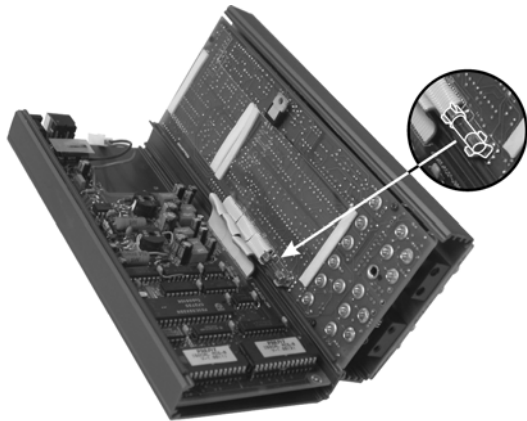

Fig. 16 - Input current fuse substitution
- 3) It is not necessary to open the instrument 180 degrees. Open according to the figure 16 and locate the fuse;